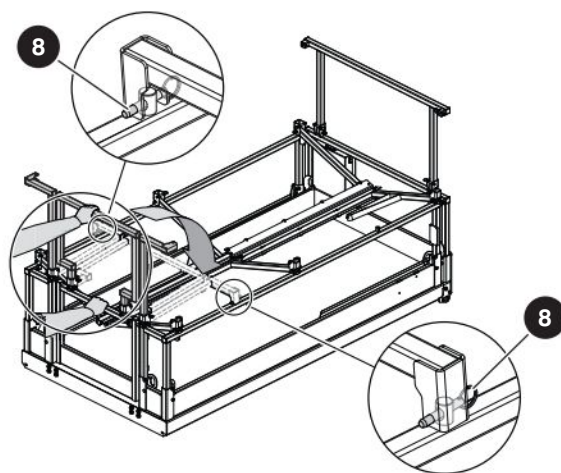

Figure 3-22. Fold down the rear gate.
16. Hold the mid-rail with one hand and use the other hand to fold down the rear gate. Refer to Figure 3-22 for hand positions. Lock into place by installing pins **8**. Ensure the detent ball of the pin is all the way through.